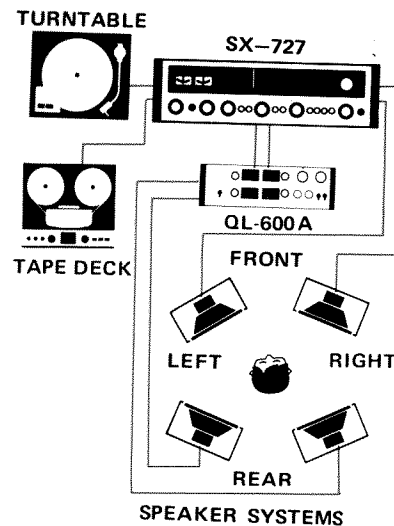

Fig. 4
- With the help of the Pioneer "4-channel decoder" Amplifier, model QL-600A and an additional pair of speaker systems, the SX-727 can serve as the heart of an ultra-modern 4-channel stereo system. See Fig. 4.